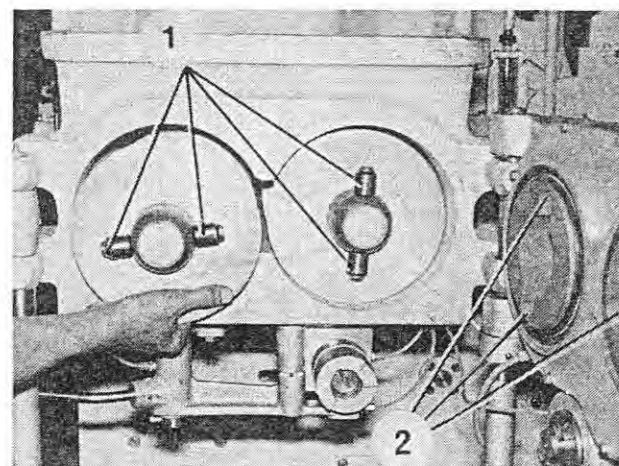

Fig. 198
Align the catcher rollers (Figure 198/1) with the recesses (Figure 198/2) and close the wheel box.
5. Remove the worms from the worm trough (Figure 198) and clean the worms.